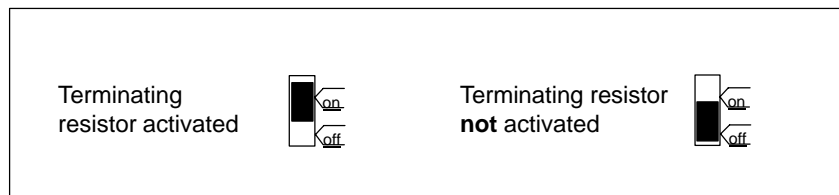

Figure 4-26 Bus Connector (6ES7 972-0B.11-...): Terminating Resistor Activated and deactivated
3. If the bus connector is located at the start or end of a segment, you must activate the terminating resistor (switch setting ON") (see Figure 4-26).